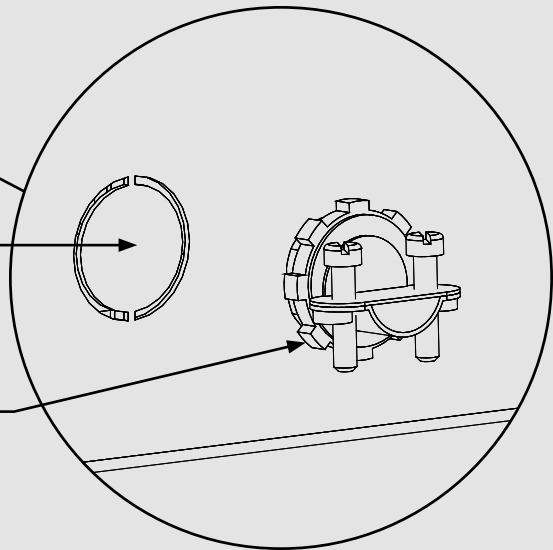

Figure 4
3. Install and secure the commercial electrical connector (not included) in the hole provided on the rear panel. **(Figure 4)**